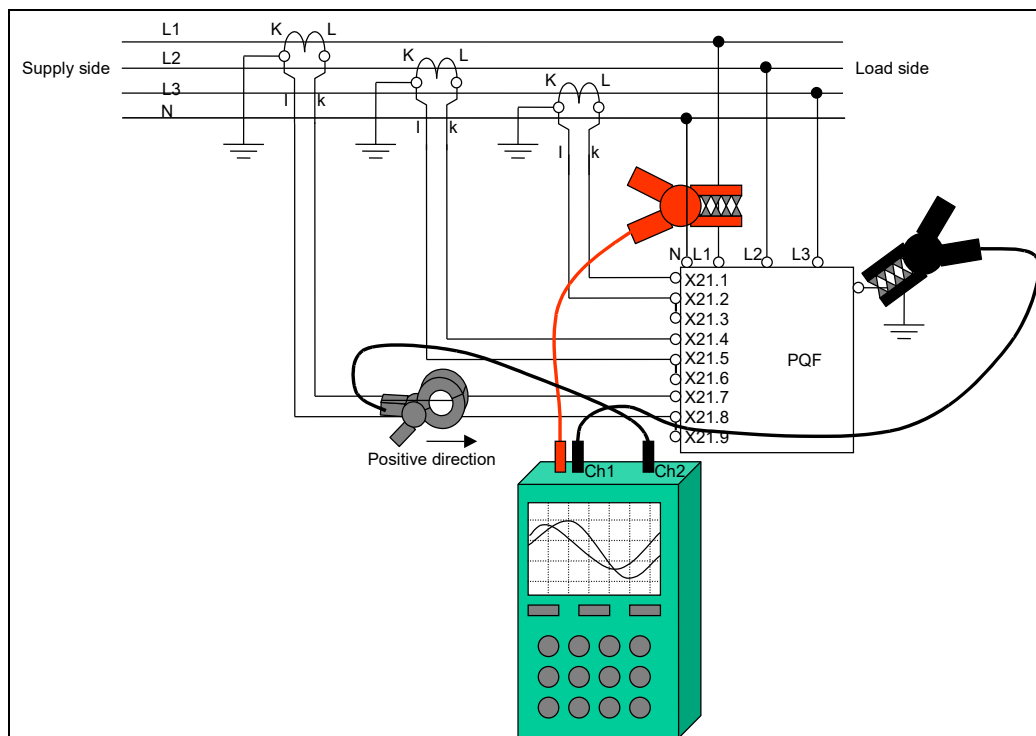
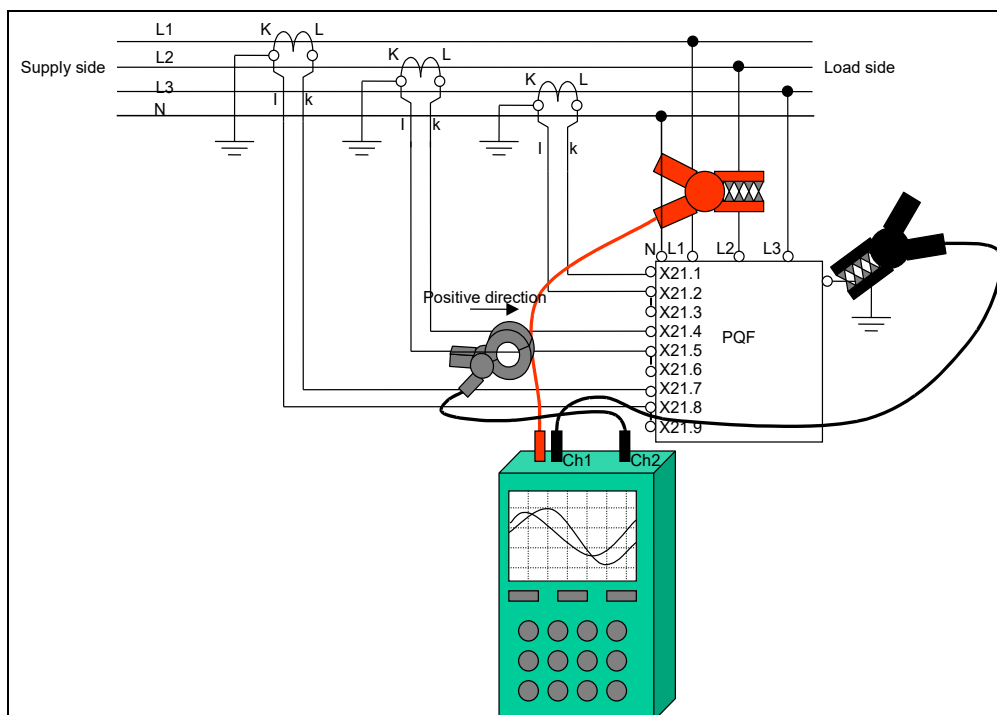
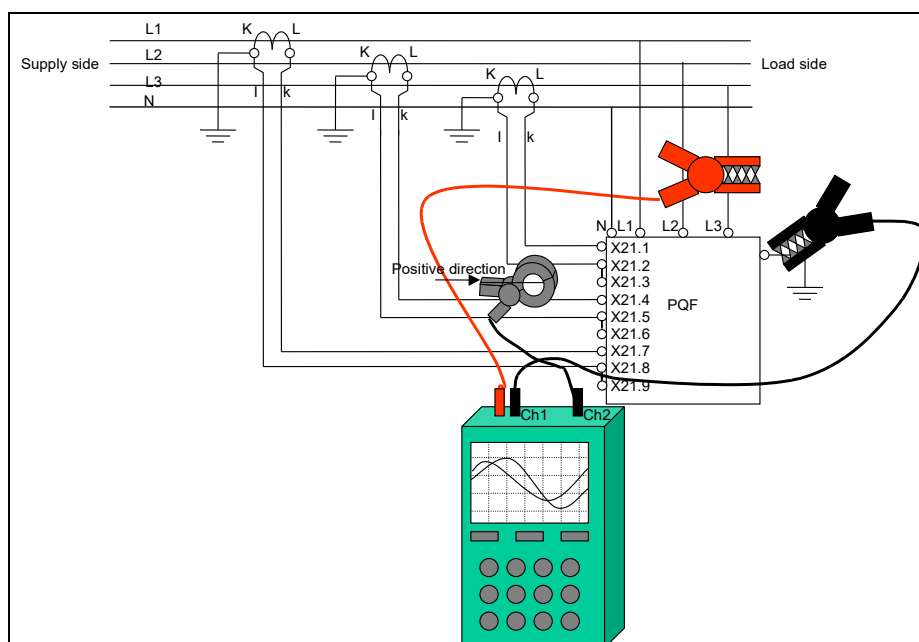

Figure 75: Connection of the scopemeter for checking the CT in phase L1
Figure 78: Connection of the scopemeter for checking CT in phase L2
Figure 79: Connection of the scopemeter for checking CT in phase L3
8.6.2.3.1. Measurement of the CT in phase L1 (Figure 75)
8.6.2.3.2. Measurement of the CT in phase L2 and L3 (Figure 78 and Figure 79)
The same operations as those described in the previous paragraph must be repeated with the phase L2 (Figure 78) and phase L3 (Figure 79).
The probes must be connected as shown in Figure 75, Figure 78 and Figure 79.